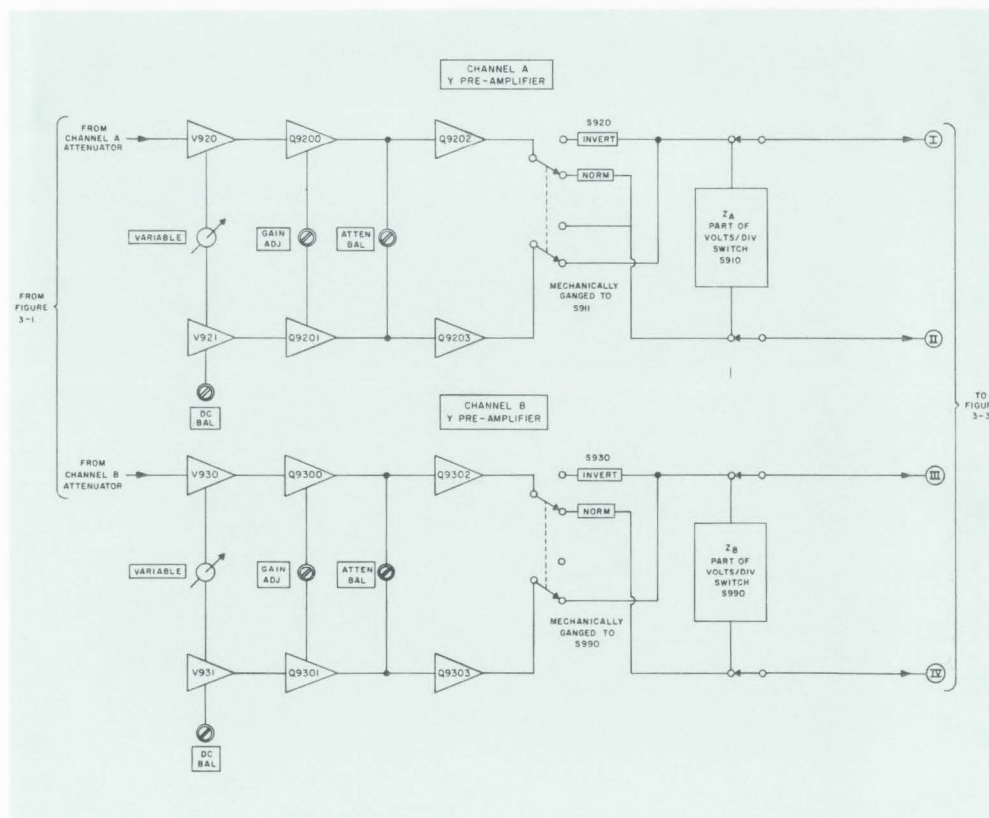

Figure 3-2.
- Figure 3-2. Type 76-02A Channels 1 & 2, Functional Block Diagram
### b. Pre-Amplifier (Figure 3-2)